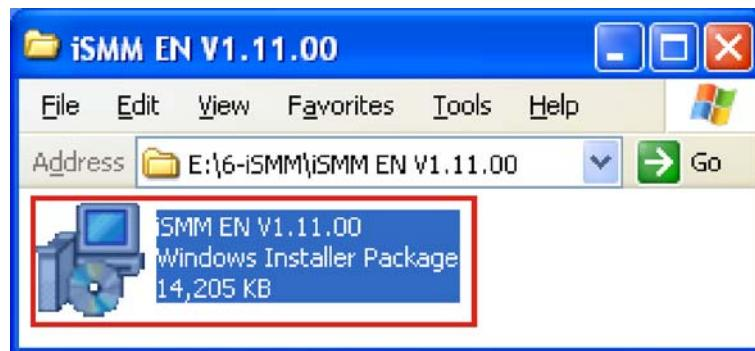

Figure 7-30: iSMM Installation File
**Step 5:** The contents of the directory are displayed. (Figure 7-30)
**Step 6:** Double click the iSMM EN V1.11.00 setup file. (Figure 7-30)